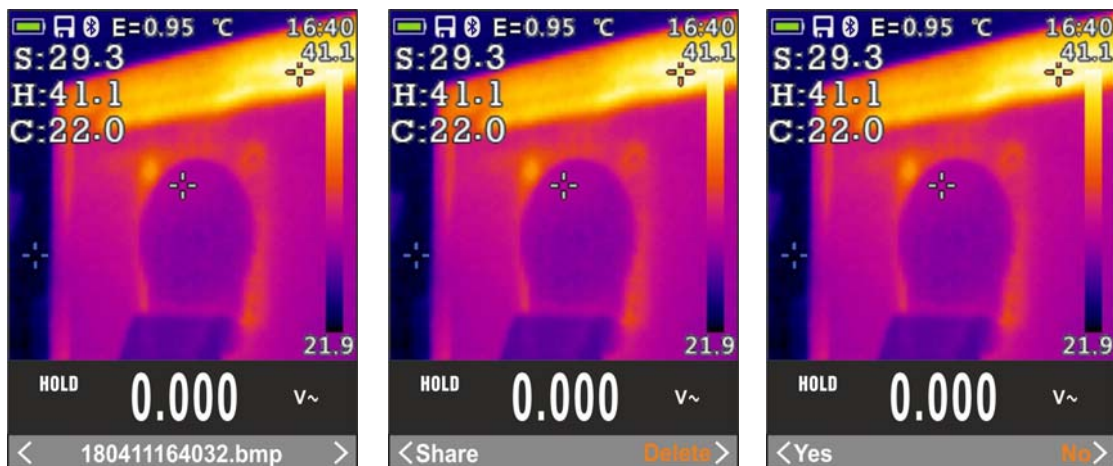

Fig. 42: Recalling and deleting IR images
- Enter the General menu to display the saved result (see Fig. 42 – left side)